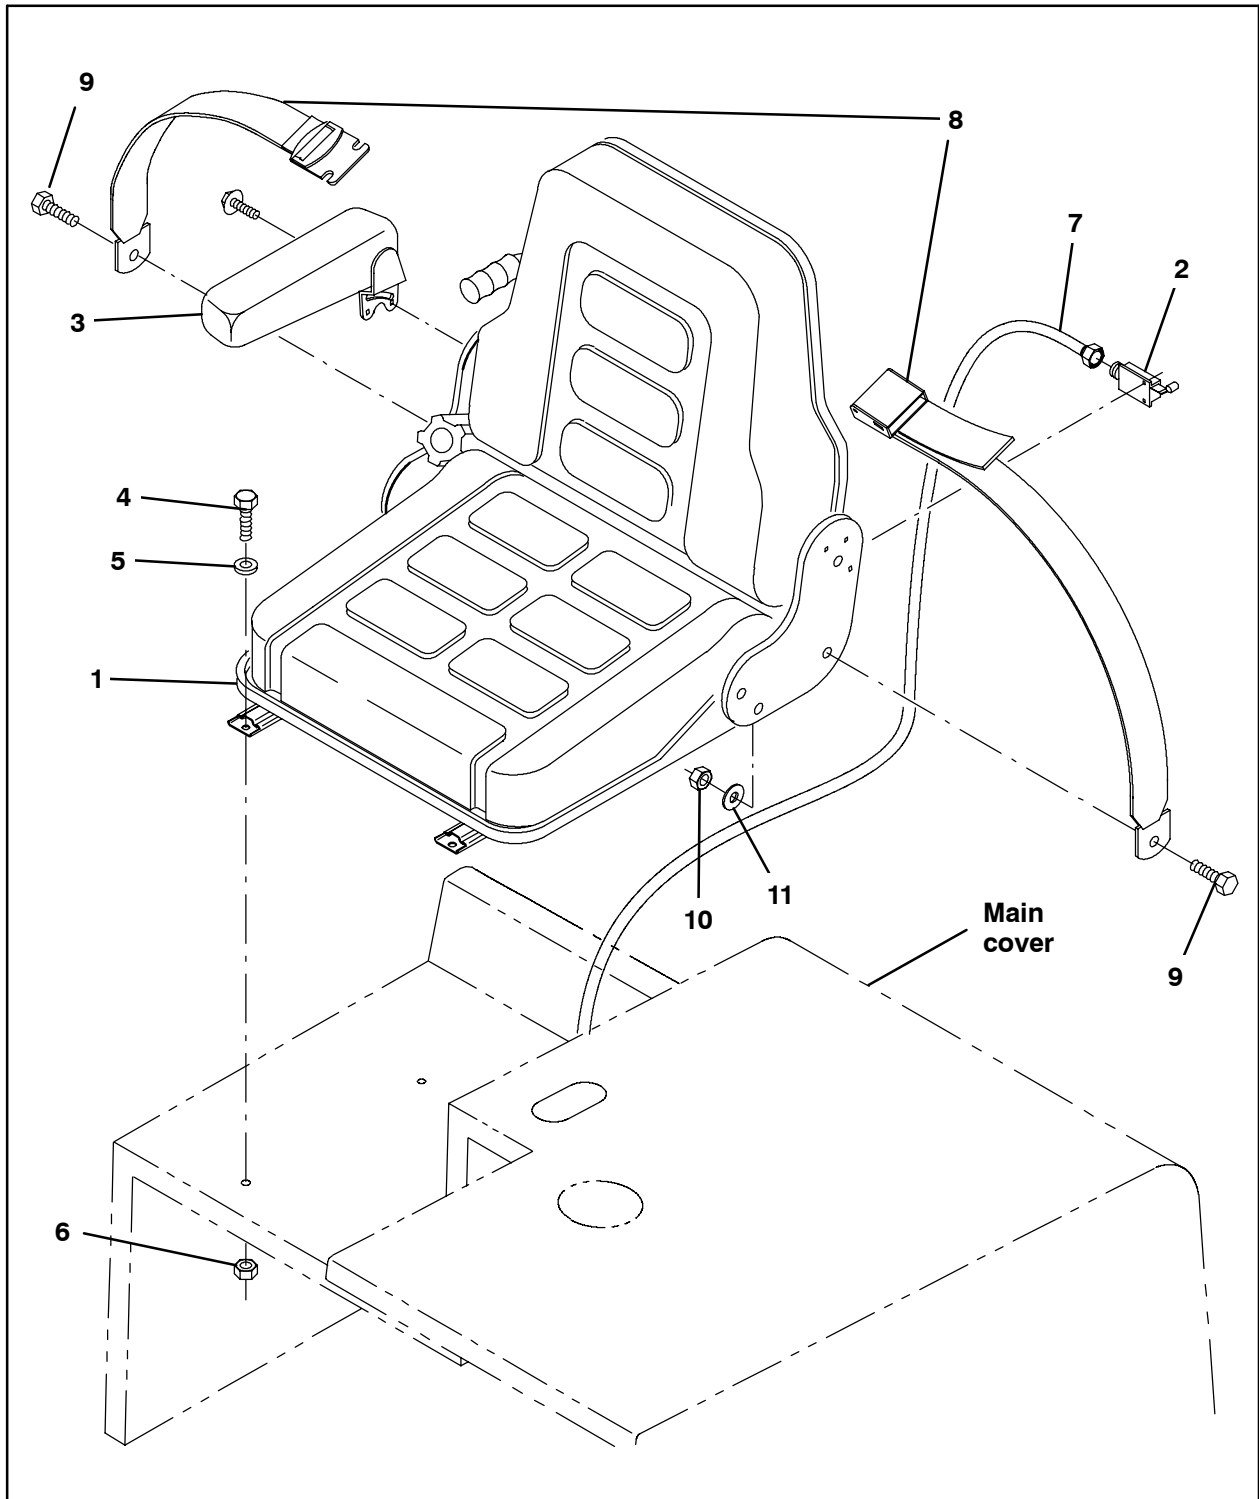

FIG. 1
1. Use two hex screws (9), two flat washers (10), and two hex nuts (11) to install the seat belts (8) onto the suspension seat (1). Refer to Fig. 1.
2. Use the hardware included with the seat switch (2) to install the seat switch onto the suspension seat (1). Refer Fig. 1.
3. Connect the seat harness (7) to the seat switch.
4. Use four hex screws (4), four flat washers (5), and four hex nuts (6) to install the suspension seat (1) onto the main cover. Refer to Fig. 1.
5. Route the seat harness (7) through the hole in the main cover and connect the seat harness to the main wire harness. Refer to Fig. 1, Fig. 2, and Fig. 3.
6. Use the hardware included with the suspension seat (1) to install the arm rest (3) onto the seat. Refer to Fig. 1.